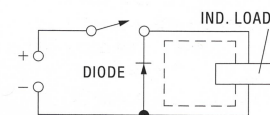

Figure 6 — Inductive Load Switching
4. Inductive loads can be switched like resistive loads when a diode is used in parallel to the load. (See Figure 6.)